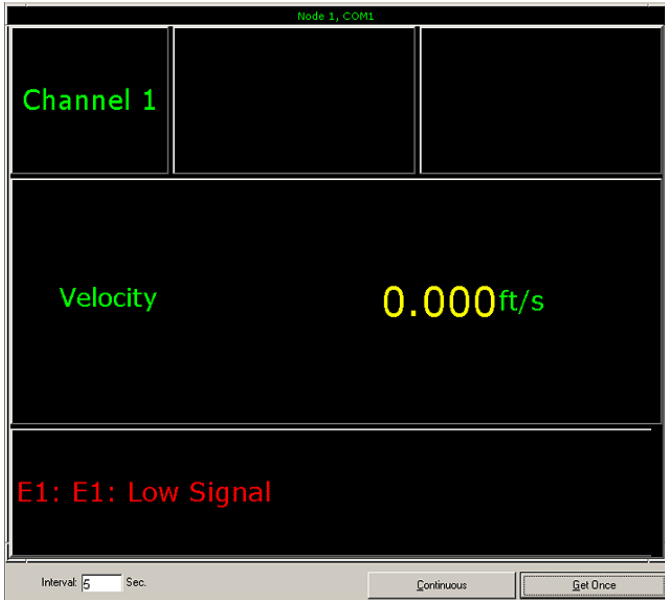

Figure 18: A Typical PanaView text display pane
The components of the PanaView text display are shown in Figure 18 below, along with a typical flow rate readout.
As shown in Figure 18 above, the PanaView text pane includes the following information:
Note: As shown in Figure 18 above, Error Code messages may appear in the lower left corner of the PanaView text display window.
- Enter an Interval in the text box at the bottom of the right pane in the Text Display window, or check the Max. Comm Rate box to collect readings as fast as the system allows (i.e., 1 sec). Then, click on the [Continuous] option button to begin collecting data for display in the right pane of the Text Display window. The right pane now appears similar to Figure 18 on page 24.